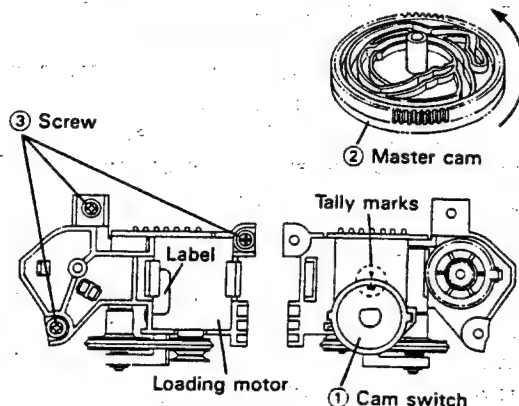

Figure 1-32.
1. Place the loading motor so that its label is visible as shown in Fig. 1-32.